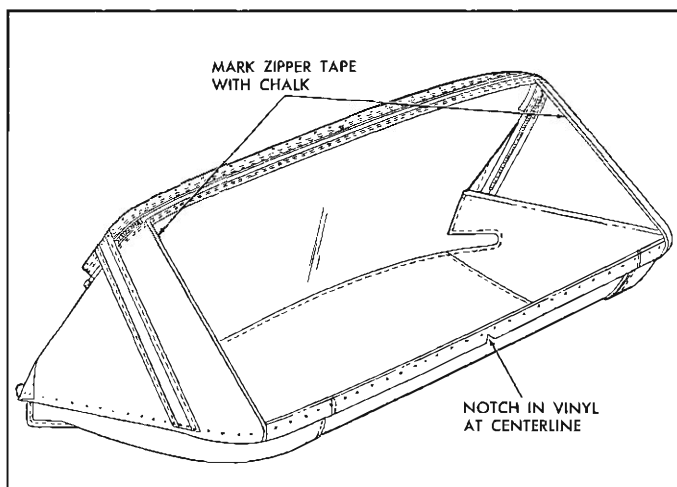

Fig. 79—Marking Zipper Tape
14. Using chalk or similar material, mark zipper tape at upper edge of vinyl (fig. 79).